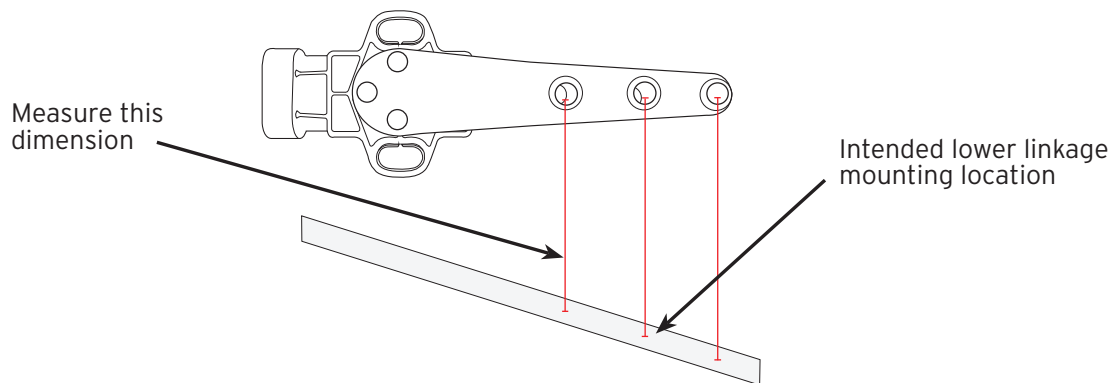

Fig. 4
3. Reinstall air lines and cycle the suspension to get to the upper limit position again, measuring between the sensor arm's middle position and directly below the sensor arm hole mounting to the lower linkage ball joint (Fig. 4). The difference between these two values will be the full suspension travel range.